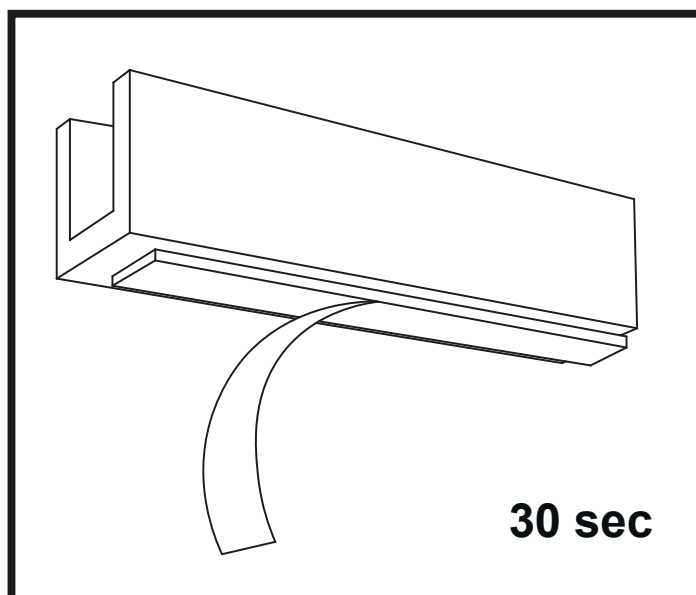

Figure 4
15. Remove the backing film from the double-sided tape on the profile and place the profile on the floor in the marked location. Press the lath firmly, holding the pressure for about 30 seconds. (Figure 4)